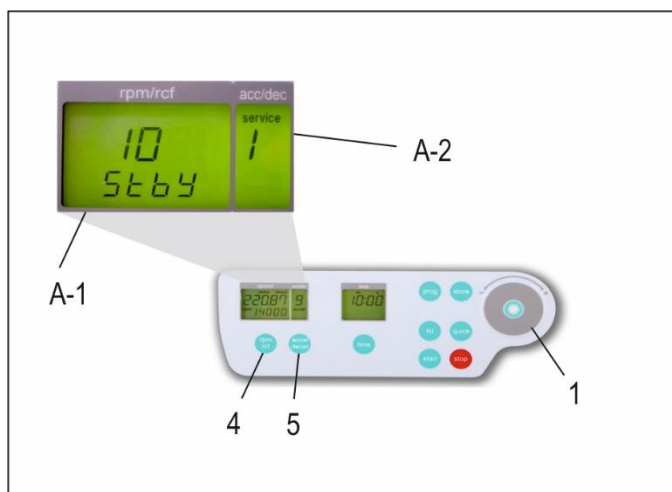

Figure 11
Proceed as illustrated, under point 1.7.1, to enter this program mode, press the key, "accel/decel" (5). In the display, "accel/decel" (A-2) flashes the word, "service". Select the letter "I" with the control field (1). As a result, appearing in the display, "rpm/rcf" (A-1), the word "Stby" (see Figure 11) . After pressing the key „rpm/rcf“, the standby mode can be turned off or pre-set to the needed value by turning the control field (1).